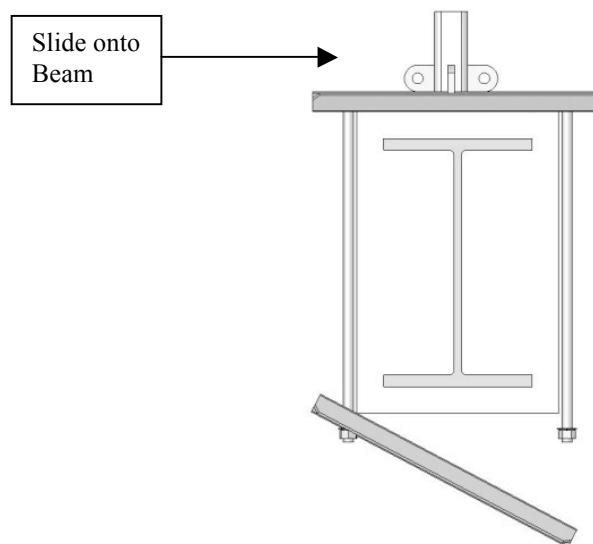

Figure 6 – Bracket installed to beam
5. Slide bracket onto beam by lifting up bolts on slotted end (see Figure 6).